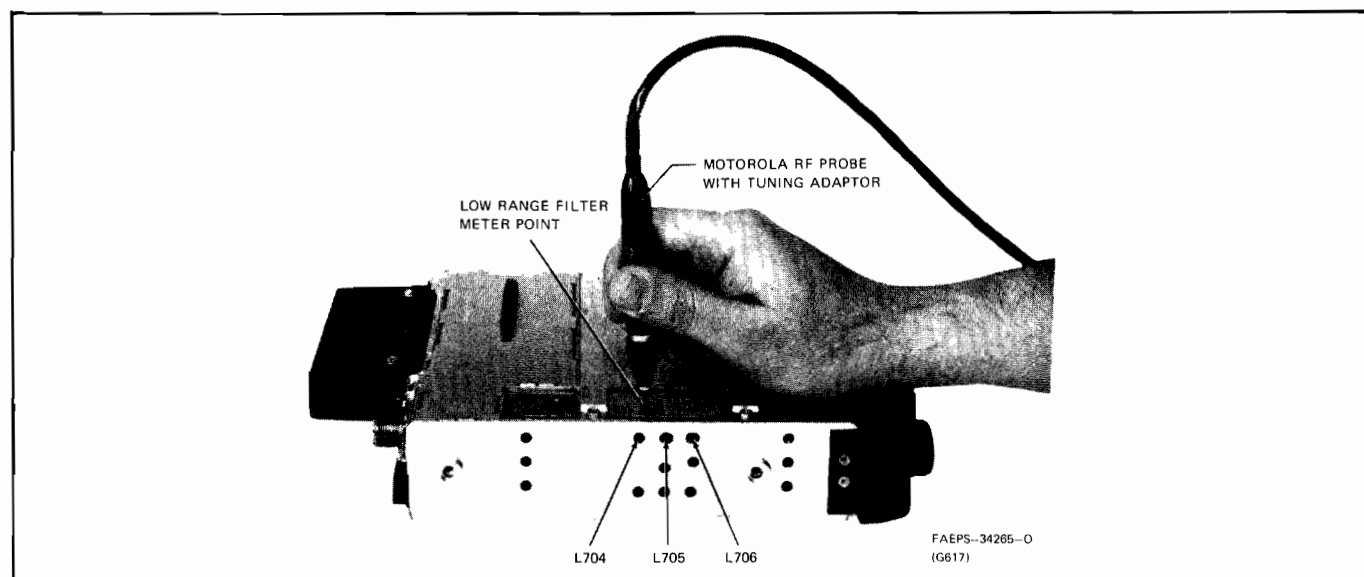

Figure 4. Low Filter Tuning.
Step 22. Place the radio into the position shown in Figure 4, and insert the tuning probe into the low filter metering point. Connect the ground clip to the radio chassis.